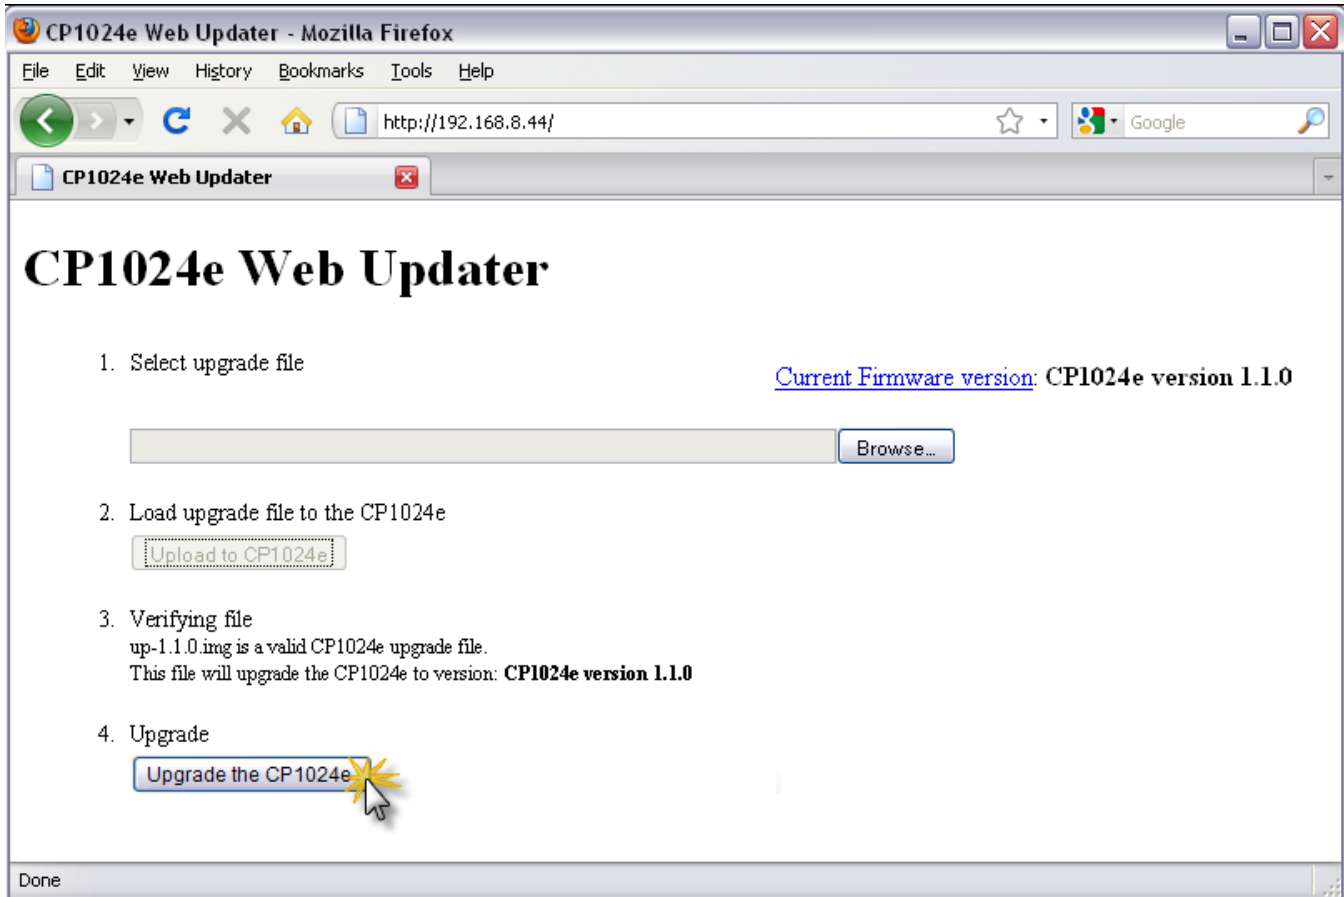

Figure 5-3: Upgrade the CP1024e
4. When the firmware has been successfully uploaded, click on the **Upgrade the CP1024e** button, as shown in Figure 5-3. Selecting this button will upgrade the firmware file using the .img file you previously loaded.